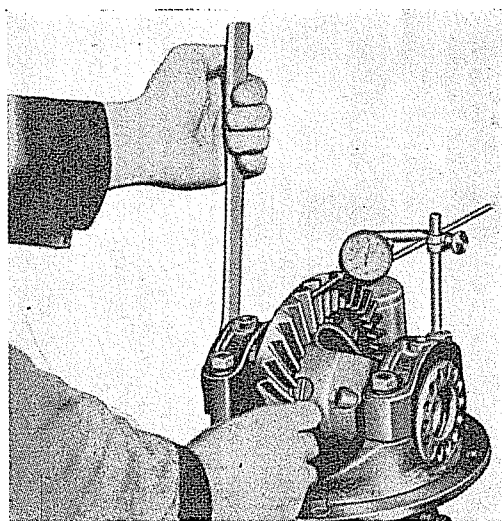

Fig. 16—Tightening Back Face Adjusting Nut.
- (g) At the point of least backlash, screw in adjusting nut (at back face of ring gear) until .001 inch shows on gauge, as shown in Figure 16.